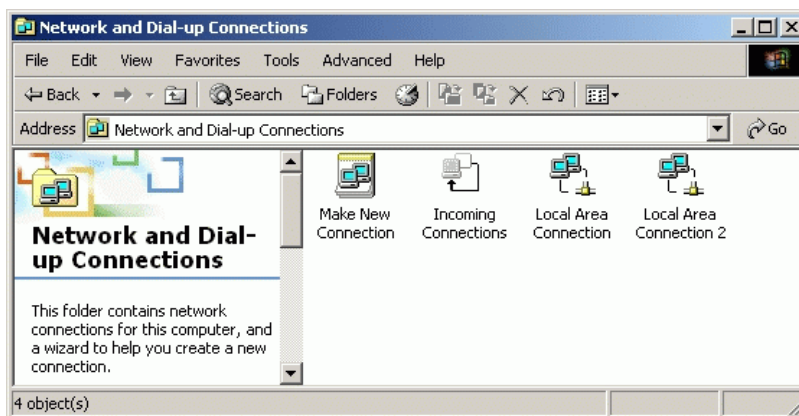

Figure 2-53 Network and Dial-up Connections Window
2. Double-click the *Network and Dial-up Connections* icon. The *Network and Dial-up Connections* window displays (Figure 2-53).